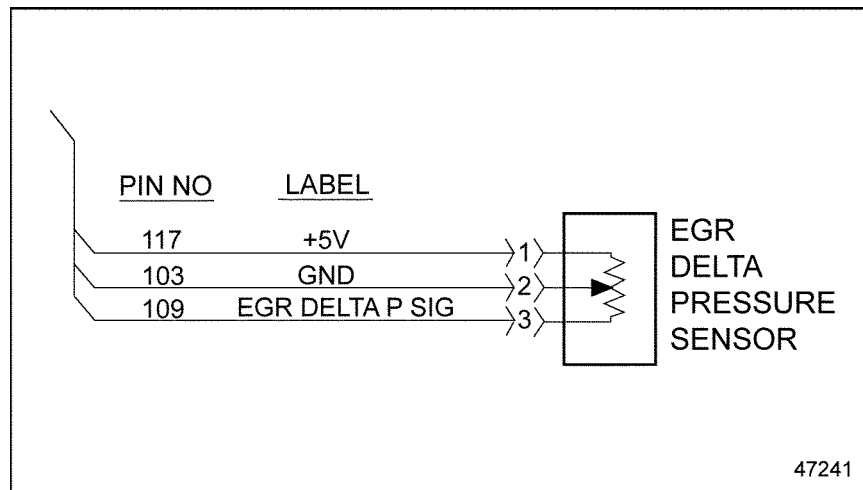

Figure 39-1 EGR Delta P Sensor
- [a] If the voltage is between 4.5 and 5.5 volts, repair the open circuit between pin 2 of the EGR Delta P Sensor harness connector and pin 103 of the 120-pin MCM connector. See Figure 39-1. Refer to section 39.2.1.1.